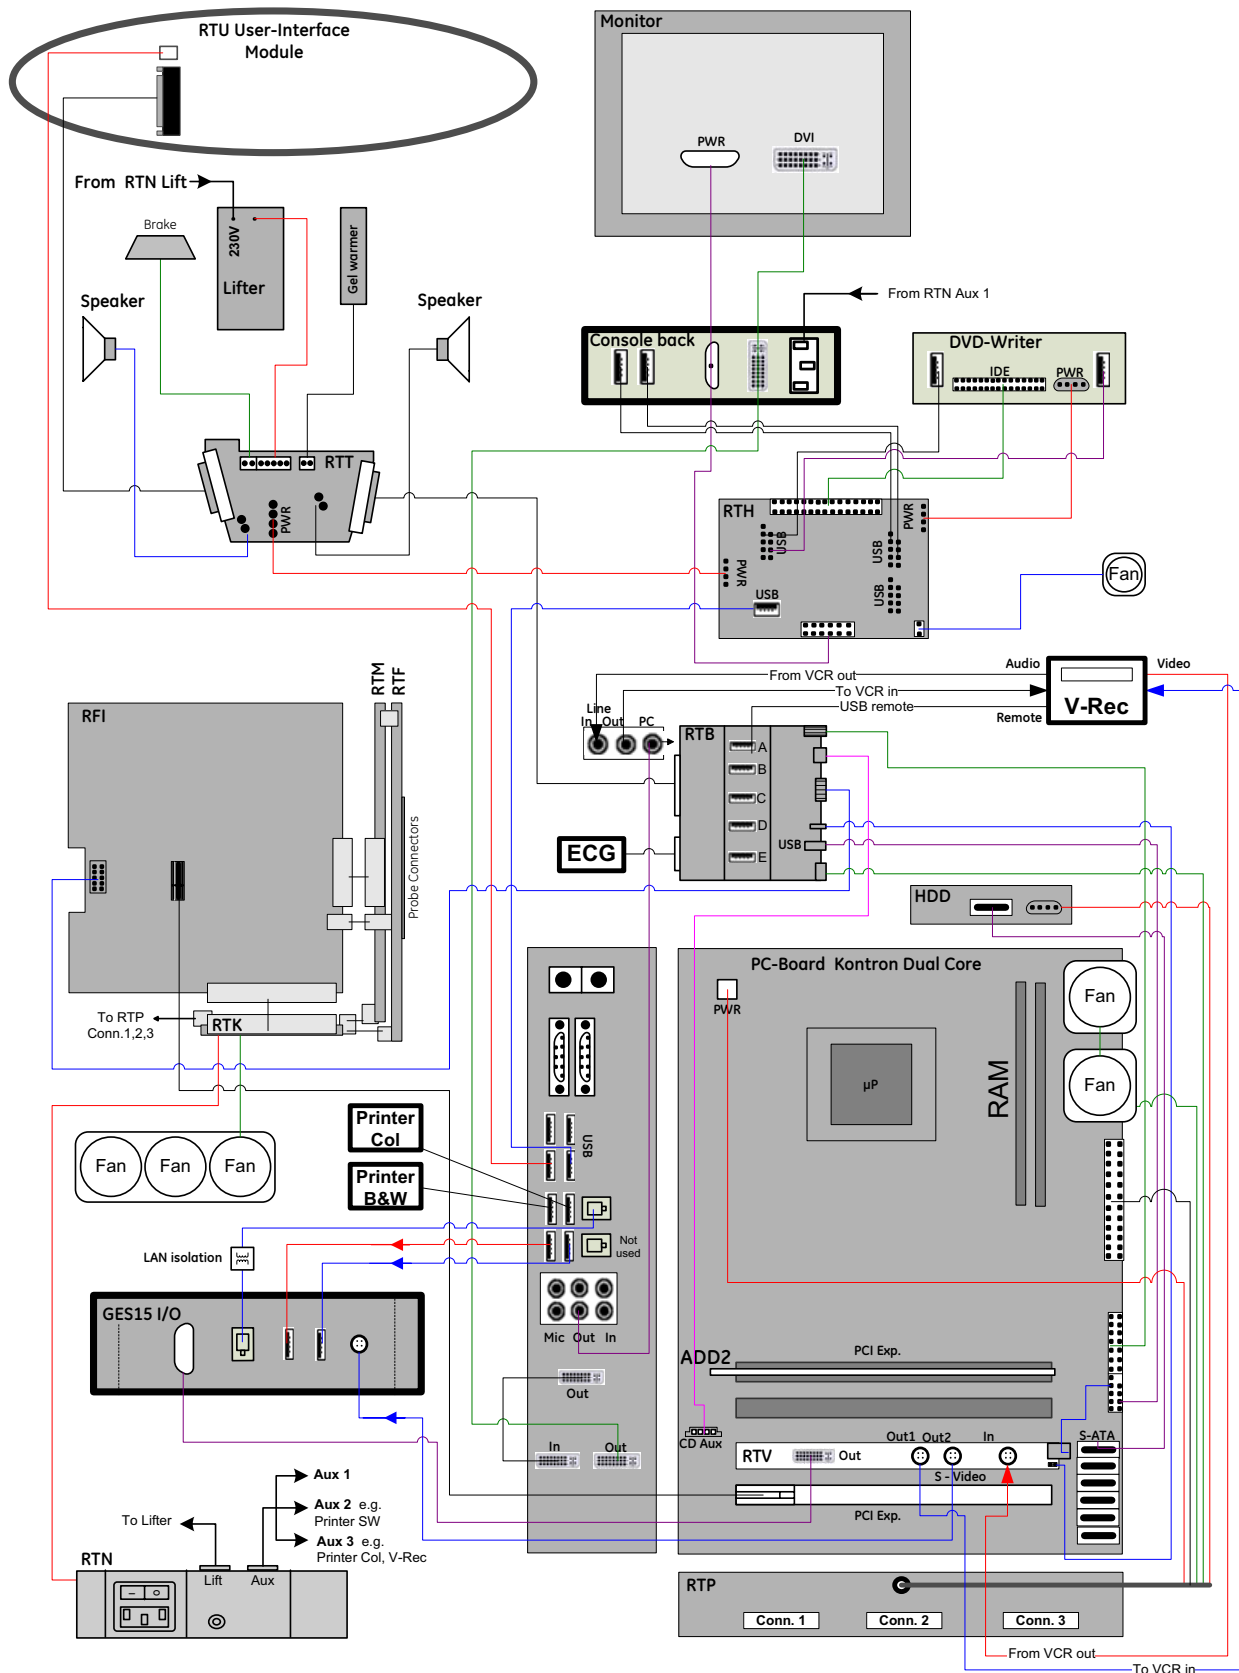

Figure 5-19 Internal I/O - BT08: KONTRON Dual-core PC-Motherboard installed
- If “**Kontron Dual-core**” PC Motherboard is installed, see: Figure 5-19 on page 5-39.